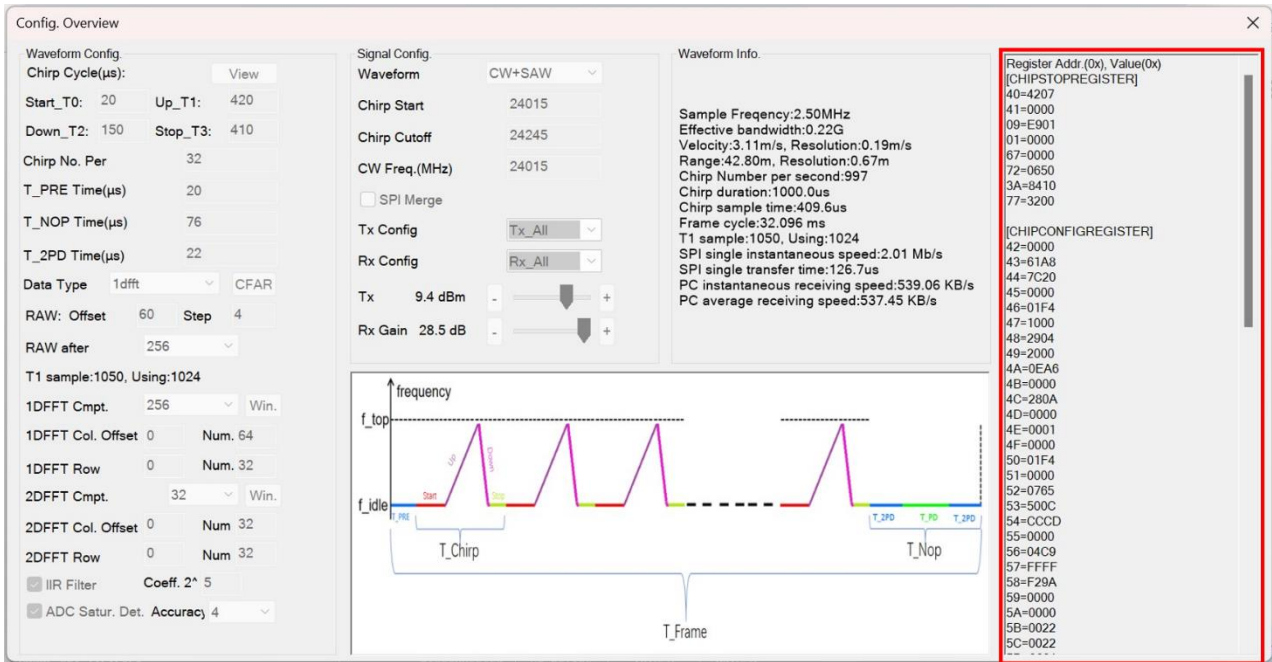

Figure 5-2 EVB1122 Register Information
After setting up mmWave sensor's waveform parameters, EVB1122 Waveform Configuration and Demonstration GUI will generate register information for ICL1122. Users can access register information (as shown in the red box in Figure 5-2) by choosing the Config. Overview submenu in the File menu.
- (1) In the Config File Operating Zone of the EVB1122 Wave Config. And Demo GUI, click the **Create Firmware Config.** button, the GUI will automatically generate the configuration file;
- (2) Manually copy the register information as shown in the red rectangular in Figure 5-2 (such as 40=4207), and paste it to firmware file `\Config\mmWave_sensorPara\EVB1122.txt` to replace the original default settings (Please make sure that the data format must be the same as the original one).